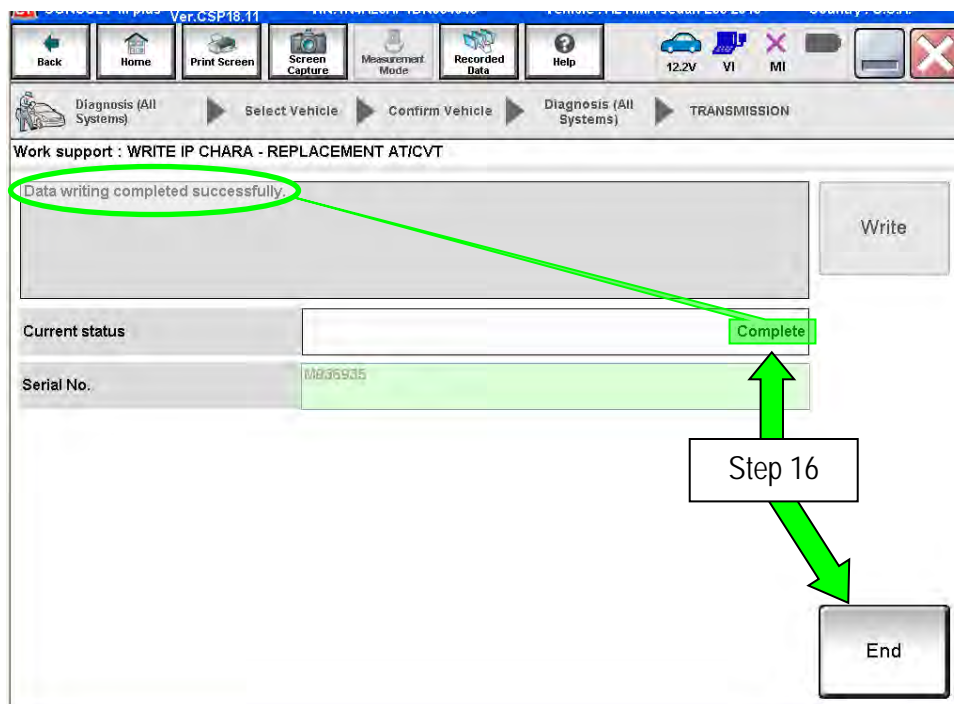

Figure A8
- When the calibration data has been written to the TCM, the message “Data writing completed successfully” will be displayed and **Current status** will indicate **Complete** (see Figure A8).